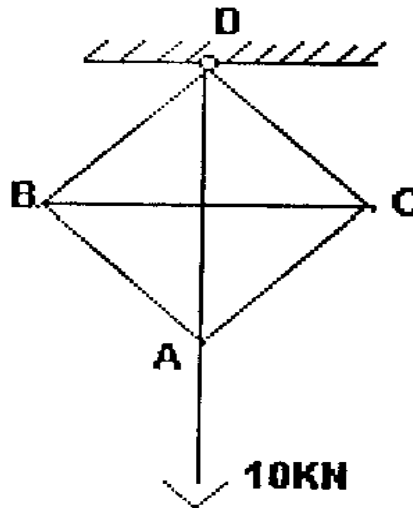

Figure 2:
- (b) A frame work consists of six bars of uniform cross sectional area and hinged together to form a square with two diagonals, is suspended from one end. At the opposite corner a load of 10kN is-suspended. Calculate the forces in all the members. The diagonals act independently. Figure 2 [6+10]